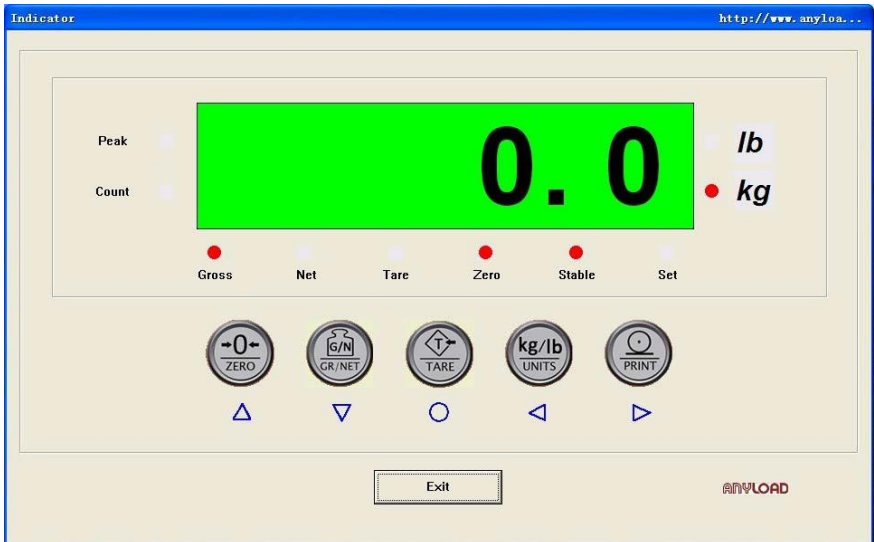

Figure 1.2.4 Software Interface of indicator
1.2.4 Software Interface of Indicator (see Figure 1.2.4)